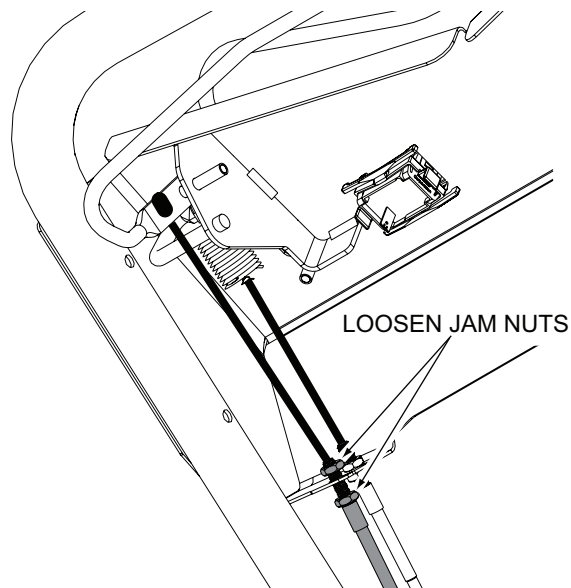

Figure 6-6. Self-Propel Drive Cable Jam Nuts
7. Loosen the jam nuts securing the self-propel drive cable to the handle bar bracket. See Figure 6-6.